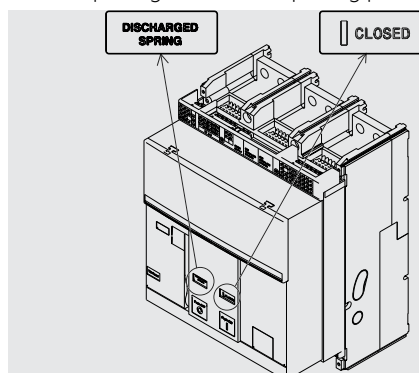

Figure 46
5. Check that the circuit-breaker is closed (open/closed indicator "I - CLOSED"), and check that the springs are discharged (spring signalling device "white - DISCHARGED SPRING") as indicated in Figure 46.